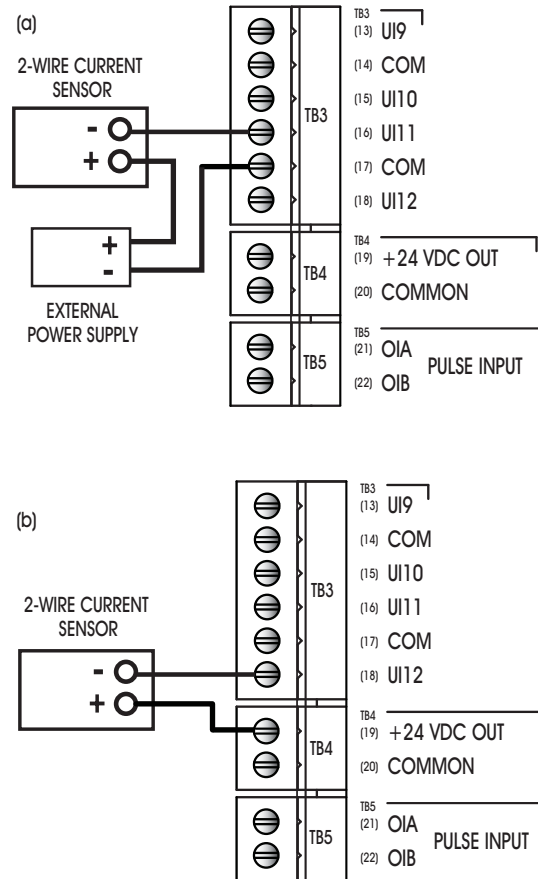

Figure 3-5: Connecting a current sensor
As an example, sensors which measure relative humidity are often current sensors that operate in the 4-20 mA range. For a sensor of this type you would set **(ST) Sensor Type=3** because the sensor measures 4-20 mA. Relative humidity ranges from 0 to 100% so you would set **(MN) Minimum Scaled Value=0** and **(MX) Maximum Scaled Value=100** to represent the limits of the sensor’s output. In this case, a raw value of 4 mA would be scaled to a value of 0% in engineering units. The relative humidity sensor would read 100% if the input were reading a signal of 20mA. Figure 3-5 shows a typical 2-wire current sensor connected to the GPC. Figure 3-5a shows the sensor using an external power supply and Figure 3-5b shows the same sensor using the GPC’s on-board 24 VDC power output to power the sensor.